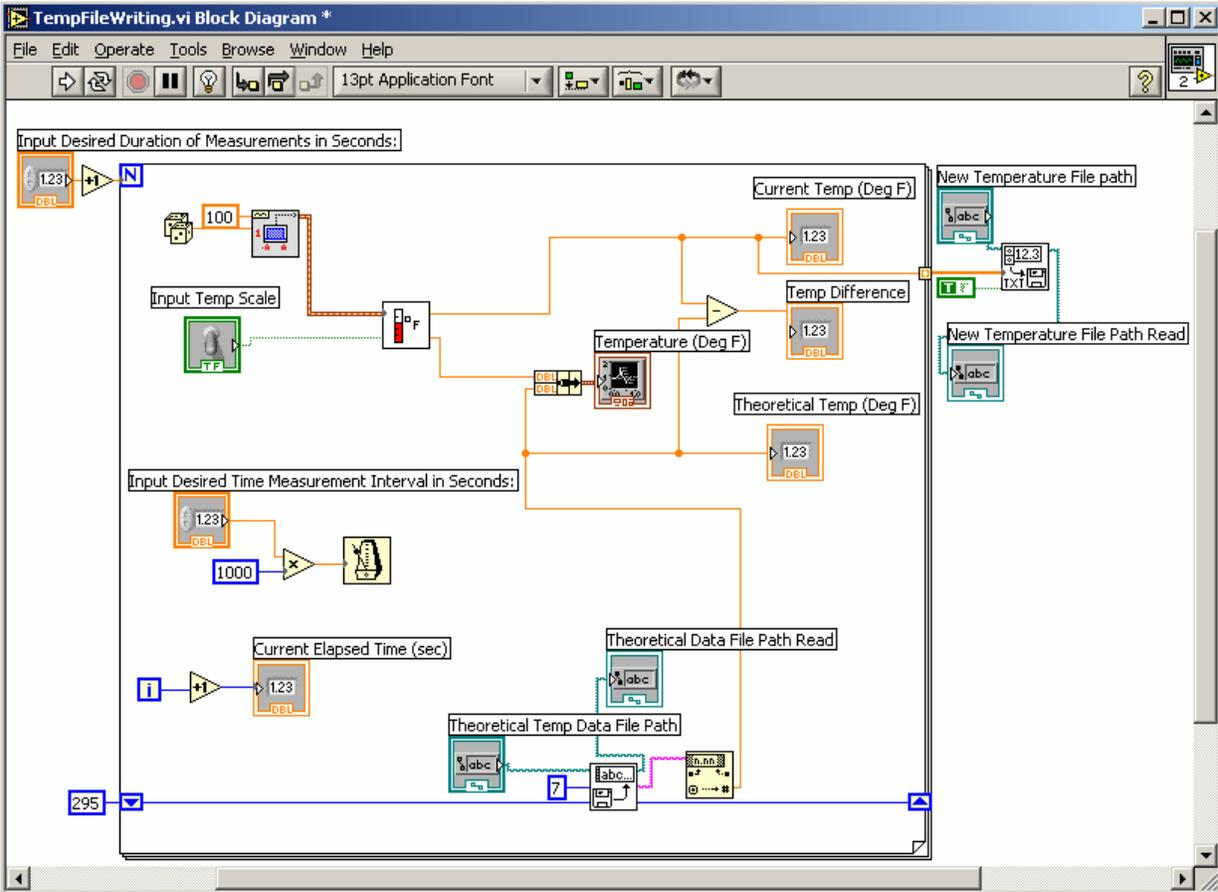

Figure 6.2: Block Diagram Configuration for Modified Temperature Reading VI
5. Arrange the **Block Diagram** in some logical orientation. Refer to **Figure 6.2** for some guidance, if necessary.